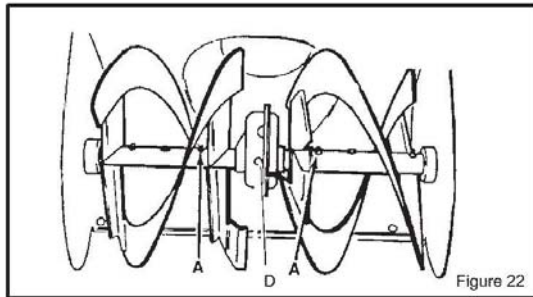
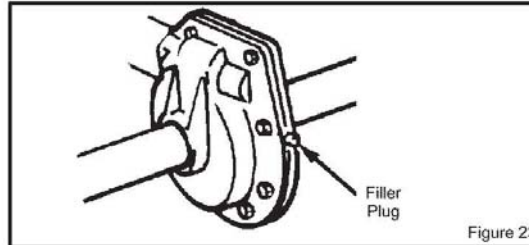

Figure 22
Figure 23
Remove filler plug D (Figure 22 and Figure 23), once a year. If grease is visible, do not add. If grease is not visible, use a piece of fine wire, like a dipstick to check if there is grease in the gear box. Mobilux EP1 and Shell Aldania EP1 are suitable equivalents.
1. **Auger Shaft** – Using a hand grease gun, lubricate the auger shaft zerk fittings (A) every ten (10) operating hours. Each time a shear bolt is replaced, the auger shaft **MUST** be greased (Figure 22). (See To Replace Auger Shear Bolt in the Repair/Adjustment section).